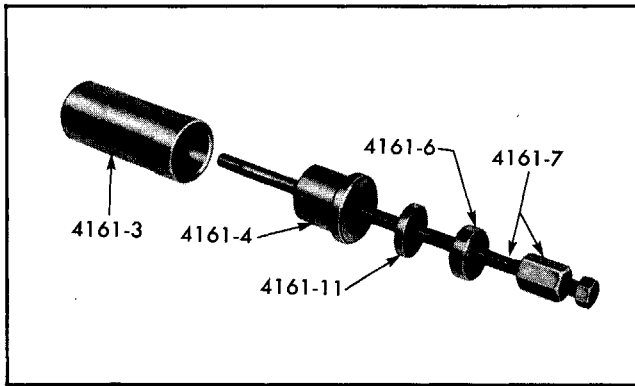

Fig. 4-56 Component Parts of Bushing Replacer Tool J-4161-A
a. Oil threads and insert screw and nut assembly 4161-7 through thrust bearing 4161-6, washer 4161-11, flanged adapter 4161-4, and large sleeve 4161-3 (Fig. 4-56).
a. Oil threads and insert screw and nut assembly 4161-7 through thrust bearing 4161-6, washer 4161-11, flanged adapter 4161-4, and large sleeve 4161-3 (Fig. 4-56); then slip small sleeve 4161-10 into large sleeve.